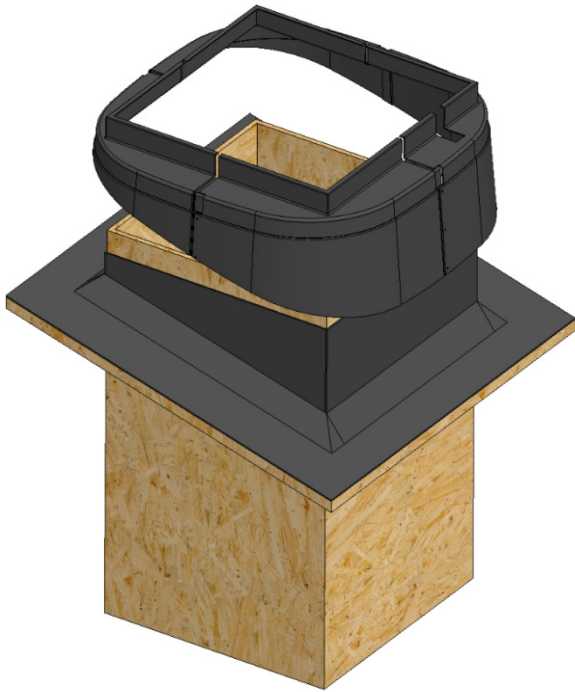

Figure 36 – Skirt extension orientation.
1. Lower cowl extension skirt onto roof upstand, ensure the cut out on the skirt aligns with the cut out on the upstand - *see figure 36.*